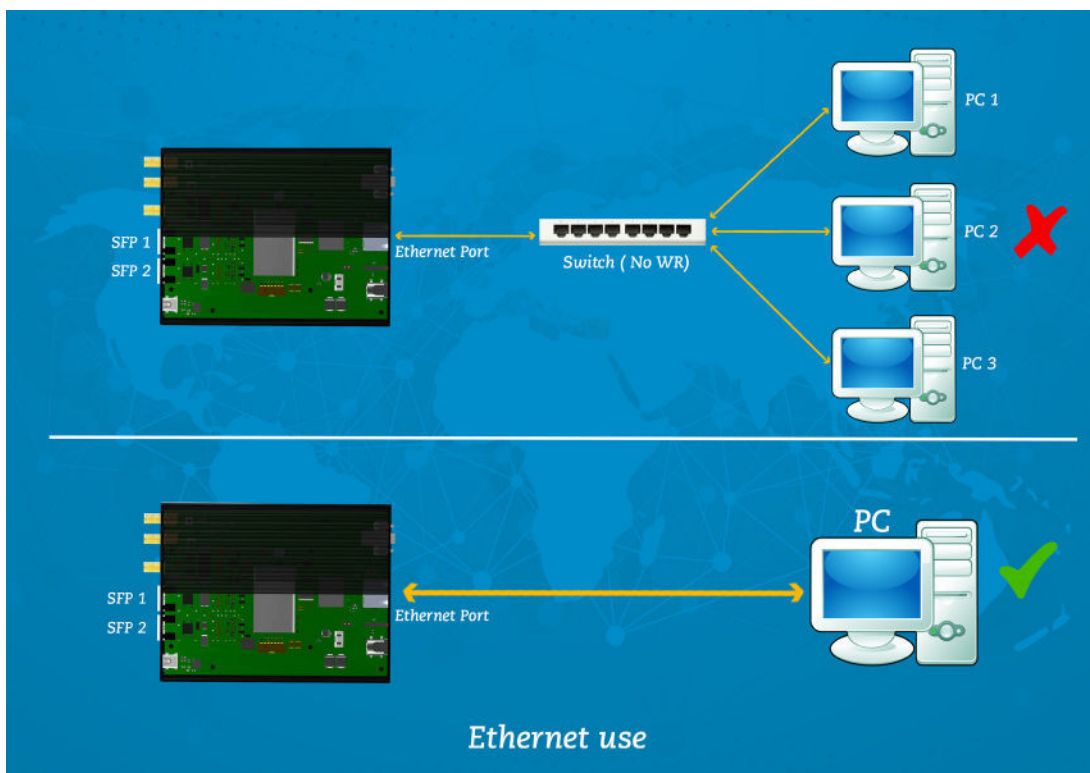

Figure 11: Back Ethernet use
4. The RJ45 port is not able to deal with more than one device. Connecting other switching devices as routers can cause wrong packet forwarding in the WR-LEN. Only final nodes, one ethernet port devices, are allowed to be connected in the WR-LEN RJ45 port. This restriction is detailed in Figure 11.